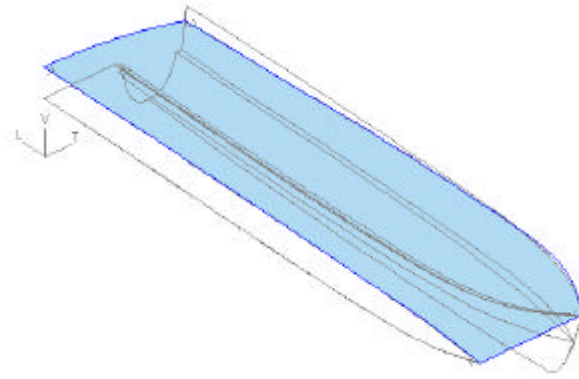

Figure 3-11: Deck Surface
2. Attach the outboard edge to the curve *Deck Edge*: switch to **Edit** mode, select the outboard column (Col 2), click on the **Attach** button and in the *Attach Surface* dialogue, under *Action* click on **Attach to Curve** and under *Attach To* select **Deck Edge** and then click on OK. (See figure 3-11.)